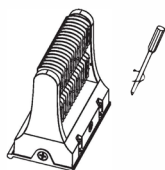

Fig. 1
1. Open the fixture by loosening the two Phillips head screws on the side opposite the hinge (Fig. 1 and 2).